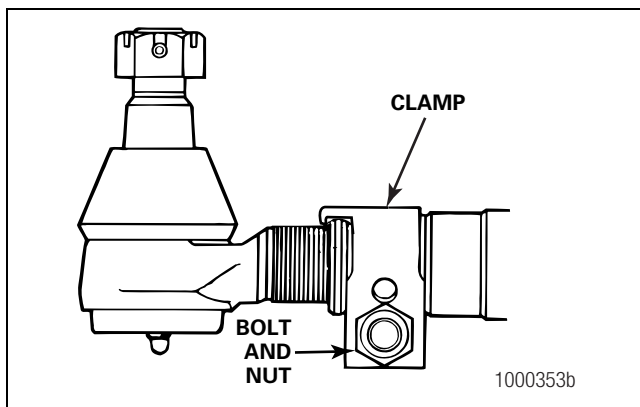

Figure 4.13
- B. Remove the bolts and nuts from the clamp on the cross tube. Rotate the cross tube clamp to remove the nuts and bolts from the clamp. Figure 4.13.